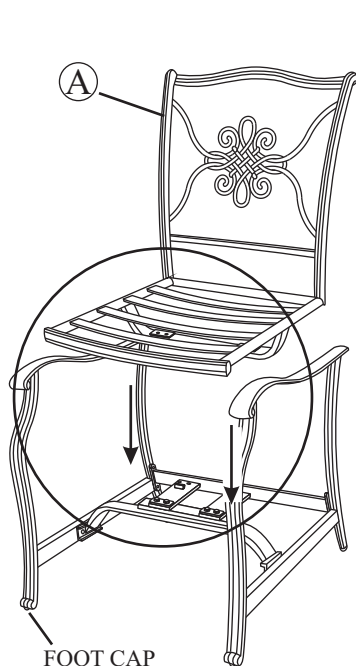

Fig. 3
- 4 Set the chair frame on the rocker assembly with front of the seat facing you and the arrows on the "U" bar pointing towards you as shown in Fig. 3. This is very important for a safe, balanced rocking motion. **If chair frame has been properly positioned on the rocker assembly, all arrows on the "U" bar and rocker assembly will be pointing in the same direction.**